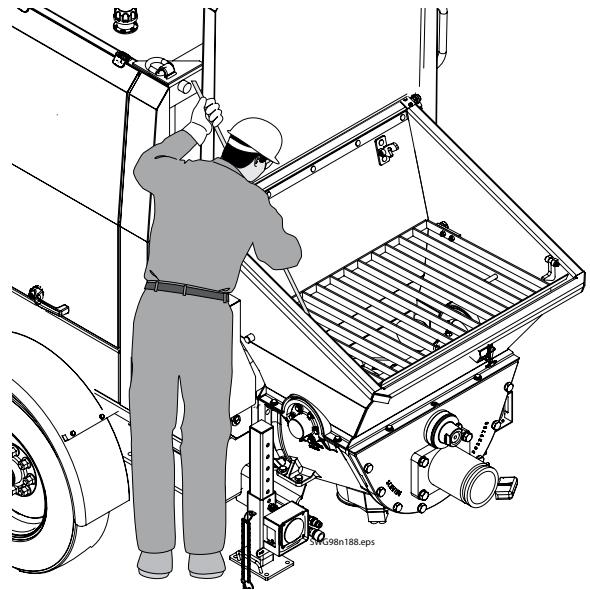

Figure 24
- Poke any material that has set in the corners of your hopper with a piece of rebar or another stiff, long bar (Figure 24). Do not remove the hopper grate for this cleanout procedure. This procedure must be done with the hopper grate in place. **Do not spend too much time on this procedure**, or the concrete will have time to set up in the Rock Valve and material cylinders.